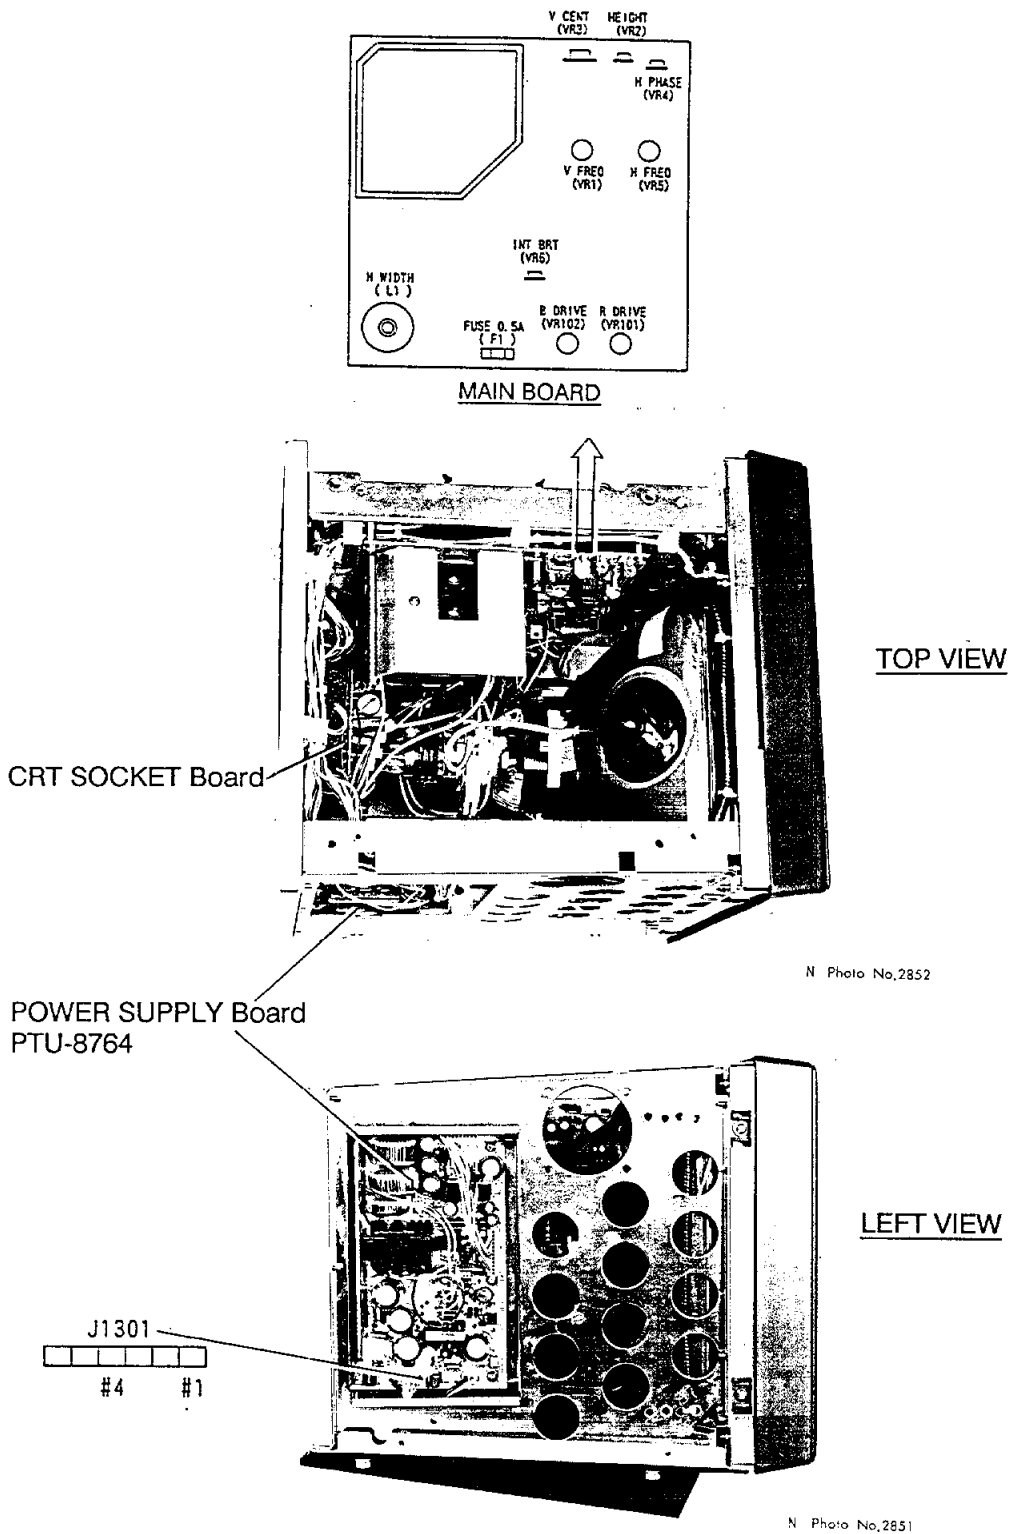

Figure 5-1 Display Unit, Top View and Left Side View
- POWER SUPPLY Board. Measure voltage between J1301 #1(+) and #4(-) on the POWER SUPPLY Board. It should be 10.2 to 20.3 VDC for 12 VDC systems, or 20.4 to 40.0 VDC for 24 and 32 volt systems. See Figure 5-1 on page 5-5.